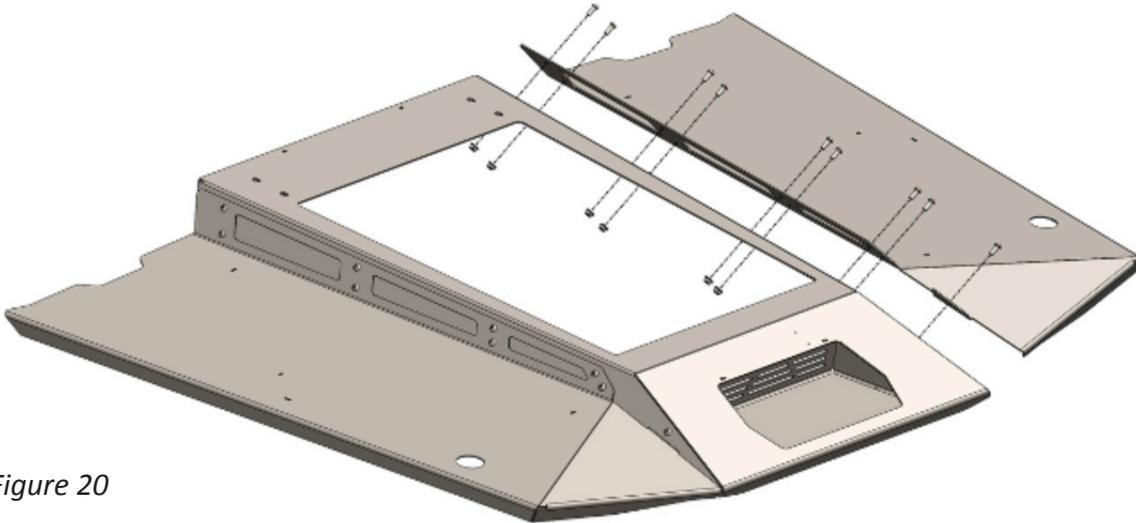

Figure 20
17. Assemble the hood components (22765, 23020 and 23021) together using the provided (18) M6 black button head bolts with flange locknuts. Figure 20.